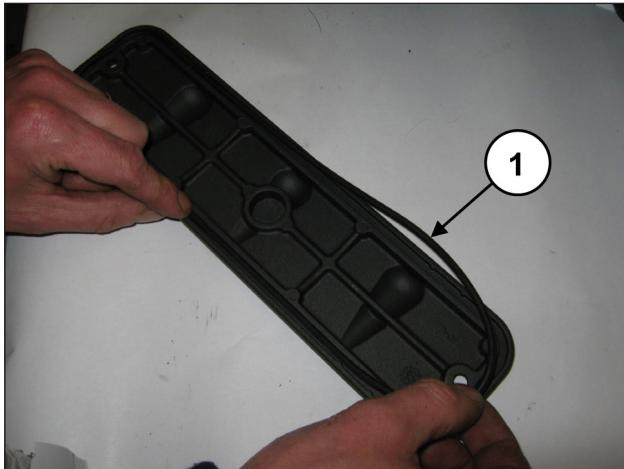
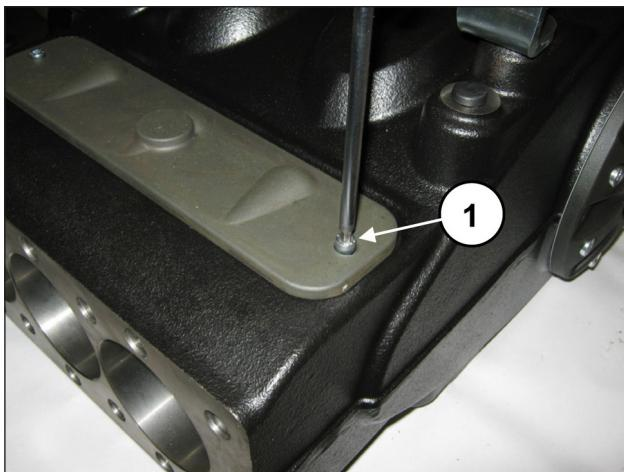

Fig. 160
Fig. 161
On the inspection covers insert the O-ring (pos. ①, Fig. 160) and assemble the covers with the use of 2+2 M6x14 screws (pos. ①, Fig. 161).